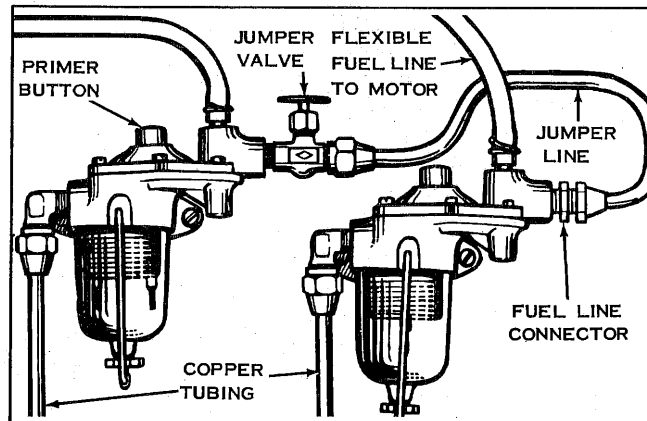

FIGURE 3
4. For Twin Tank - Twin Motor application, see Figure 3 and the instructions on the following pages. The Jumper Line Valve is kept shut unless one of the tanks run dry. In that event, close the Fuel Tank Shut-Off Valve to the empty tank, and open the Jumper Line Valve. The Jumper Line, Valve and Fuel Line Connector are available through your Dealer.